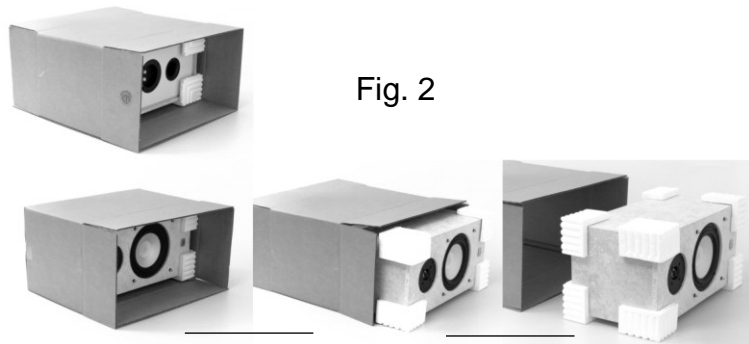

Fig. 2
- Now that all loose components and parts are removed, place boxes on their side on a solid non-scratch surface, open bottom flaps of boxes, and, from the front or rear, carefully push cabinet until completely free of box. Cabinet should be resting on four (4) foam corners. Refer to Fig. 2 below for safe removal of each speaker/cabinet.